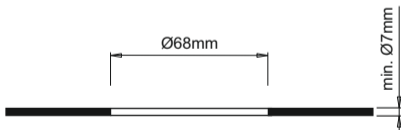

Fig 3
**ORBIT ML** devices can be flush mounted on 0.7 mm thick (min.) metal surfaces and on a  $\varnothing$  68 mm hole as illustrated in figure 3.